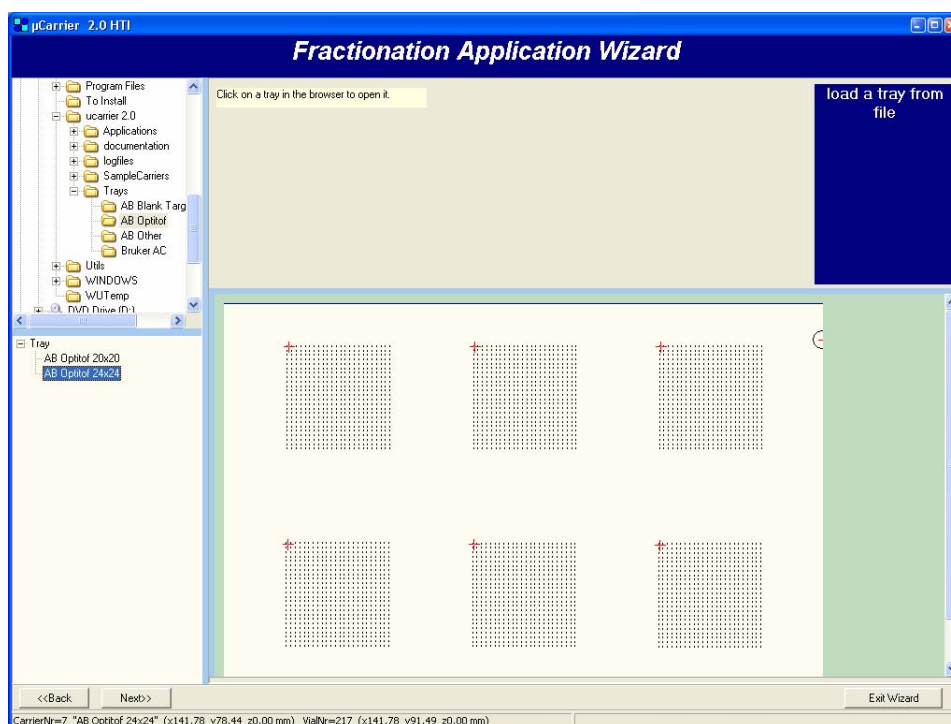

FIGURE 2-36 The Fractionation Application Wizard – Selecting a Tray
- e) Select the appropriate tray and choose **Next** (FIGURE 2-36).